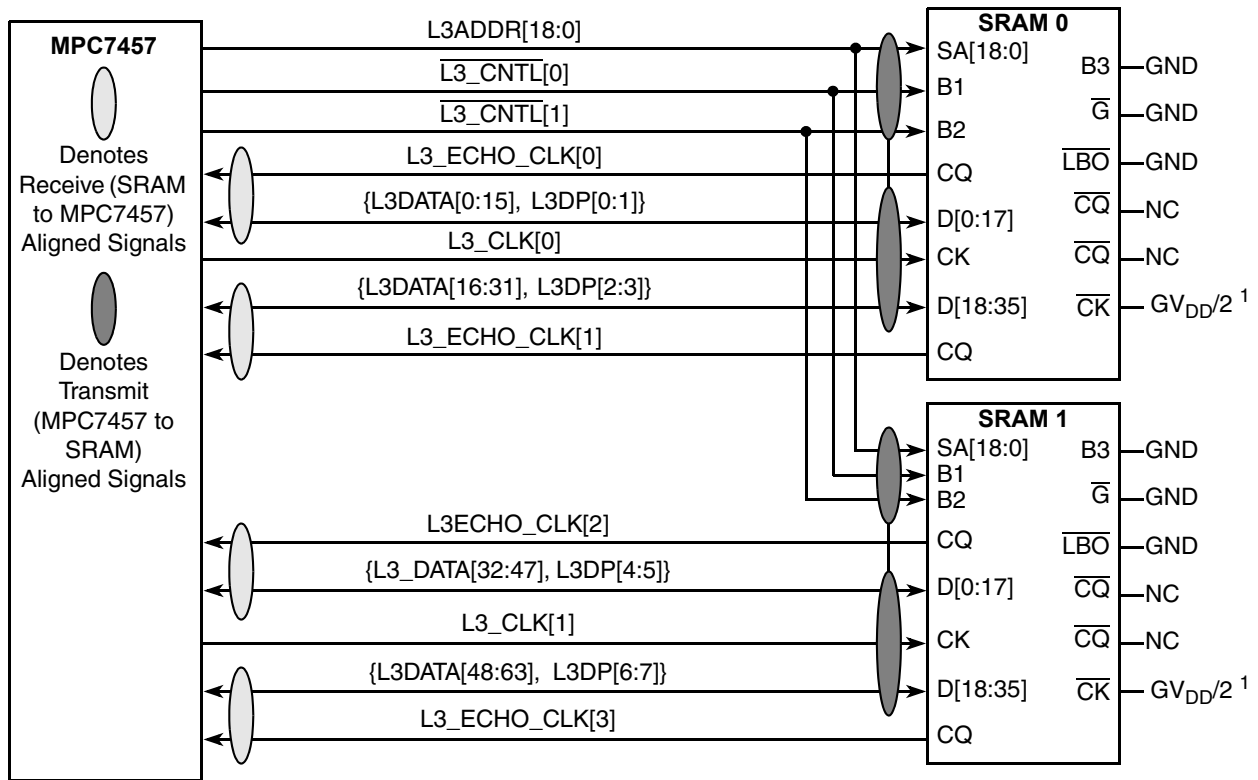
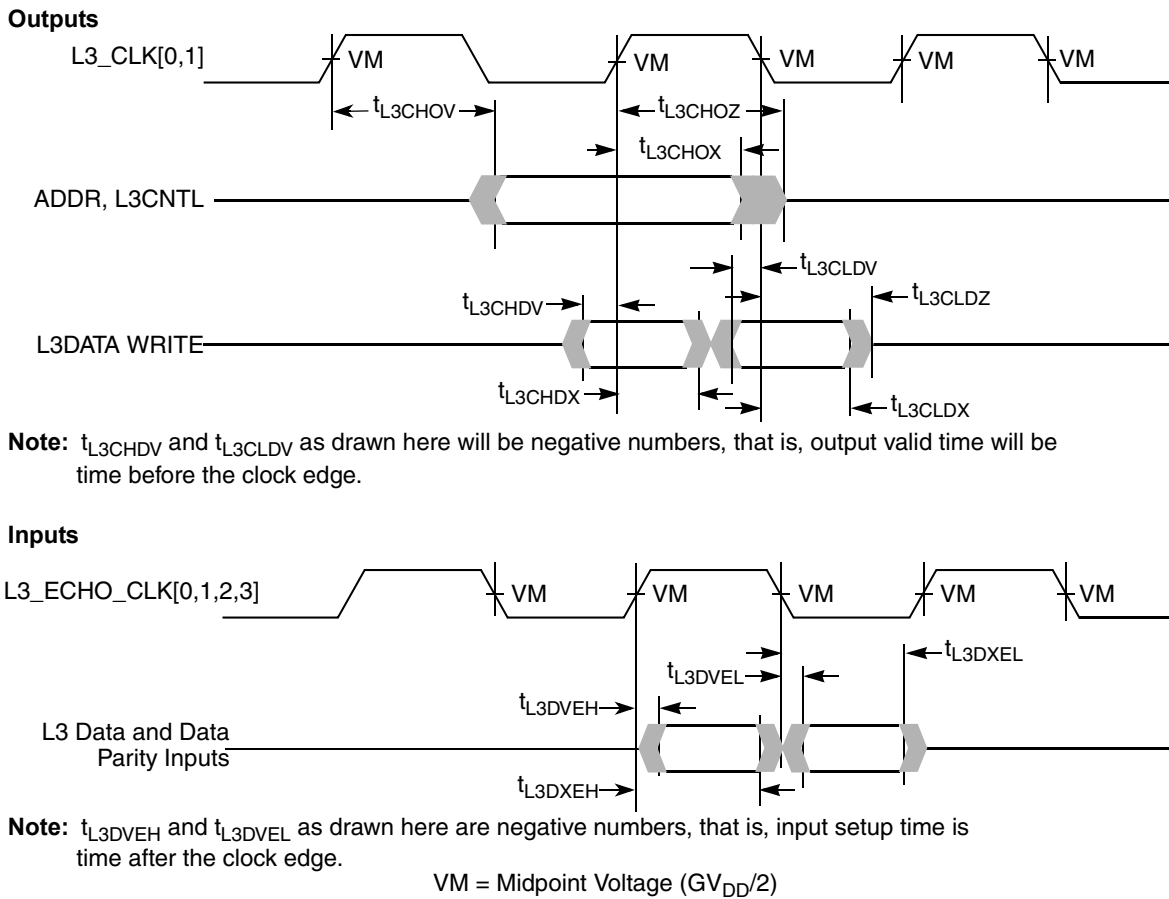

Figure 9. Typical Source Synchronous 4-Mbyte L3 Cache DDR Interface
Figure 10. L3 Bus Timing Diagrams for L3 Cache DDR SRAMs
More specifically, certain signals within groups should be delay-matched with others in the same group while intergroup routing is less critical. Only the address and control signals are common to both SRAMs and additional timing margin is available for these signals. The double-clocked data signals are grouped with individual clocks as shown in Figure 9 or Figure 11, depending on the type of SRAM. For example, for the MSUG2 DDR SRAM (see Figure 9); L3DATA[0:31], L3DP[0:3], and L3\_CLK[0] form a closely coupled group of outputs from the MPC7457; while L3DATA[0:15], L3DP[0:1], and L3\_ECHO\_CLK[0] form a closely coupled group of inputs.
5. Increasing values of L3CLKn\_OH delay the L3\_CLKn signal, effectively decreasing the output valid and output hold times of all signals latched relative to that clock signal by the SRAM; see Figure 9 and Figure 11.
When using DDR MSUG2 SRAMs at the L3 interface, the parts should be connected as shown in Figure 9. Outputs from the MPC7457 are actually launched on the edges of an internal clock phase-aligned to SYSCLK (adjusted for core and L3 frequency divisors). L3\_CLK0 and L3\_CLK1 are this internal clock output with 90° phase delay, so outputs are shown synchronous to L3\_CLK0 and L3\_CLK1. Output valid times are typically negative when referenced to L3\_CLKn because the data is launched one-quarter period before L3\_CLKn to provide adequate setup time at the SRAM after the delay-matched address, control, data, and L3\_CLKn signals have propagated across the printed-wiring board.
Table 13 provides the L3 bus interface AC timing specifications for the configuration as shown in Figure 9, assuming the timing relationships shown in Figure 10 and the loading shown in Figure 8.
- For DDR, all input specifications are measured from the midpoint of the signal in question to the midpoint voltage of the rising or falling edge of the input L3\_ECHO\_CLK $n$  (see Figure 10). Input timings are measured at the pins.
- For DDR, the input data will typically follow the edge of L3\_ECHO\_CLK $n$  as shown in Figure 10. For consistency with other input setup time specifications, this will be treated as negative input setup time.
- For DDR, the output data will typically lead the edge of L3\_CLK $n$  as shown in Figure 10. For consistency with other output valid time specifications, this will be treated as negative output valid time.
Figure 9 shows the typical connection diagram for the MPC7457 interfaced to MSUG2 DDR SRAMs.
Figure 10 shows the L3 bus timing diagrams for the MPC7457 interfaced to MSUG2 SRAMs.
3. All input specifications are measured from the midpoint of the signal in question to the midpoint voltage of the rising edge of the input L3\_ECHO\_CLK $n$  (see Figure 10). Input timings are measured at the pins.
4. All output specifications are measured from the midpoint voltage of the rising edge of L3\_CLK $n$  to the midpoint of the signal in question. The output timings are measured at the pins. All output timings assume a purely resistive 50- $\Omega$  load (see Figure 10).